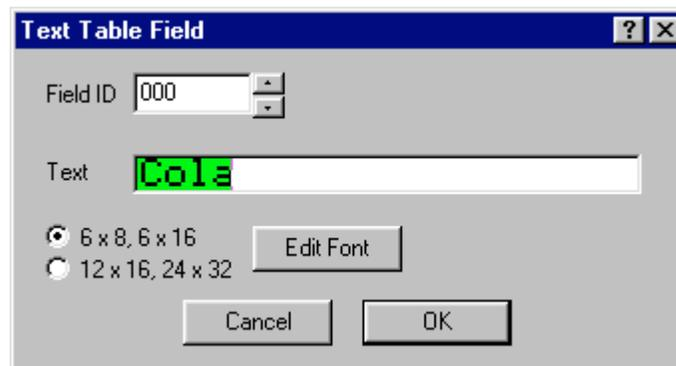

Figure 4.14 – Text Table Field Entry
1. Click Add. Figure 4.14 is displayed.
3. The mapping is displayed in the **Map** field (see Figure 4.14).